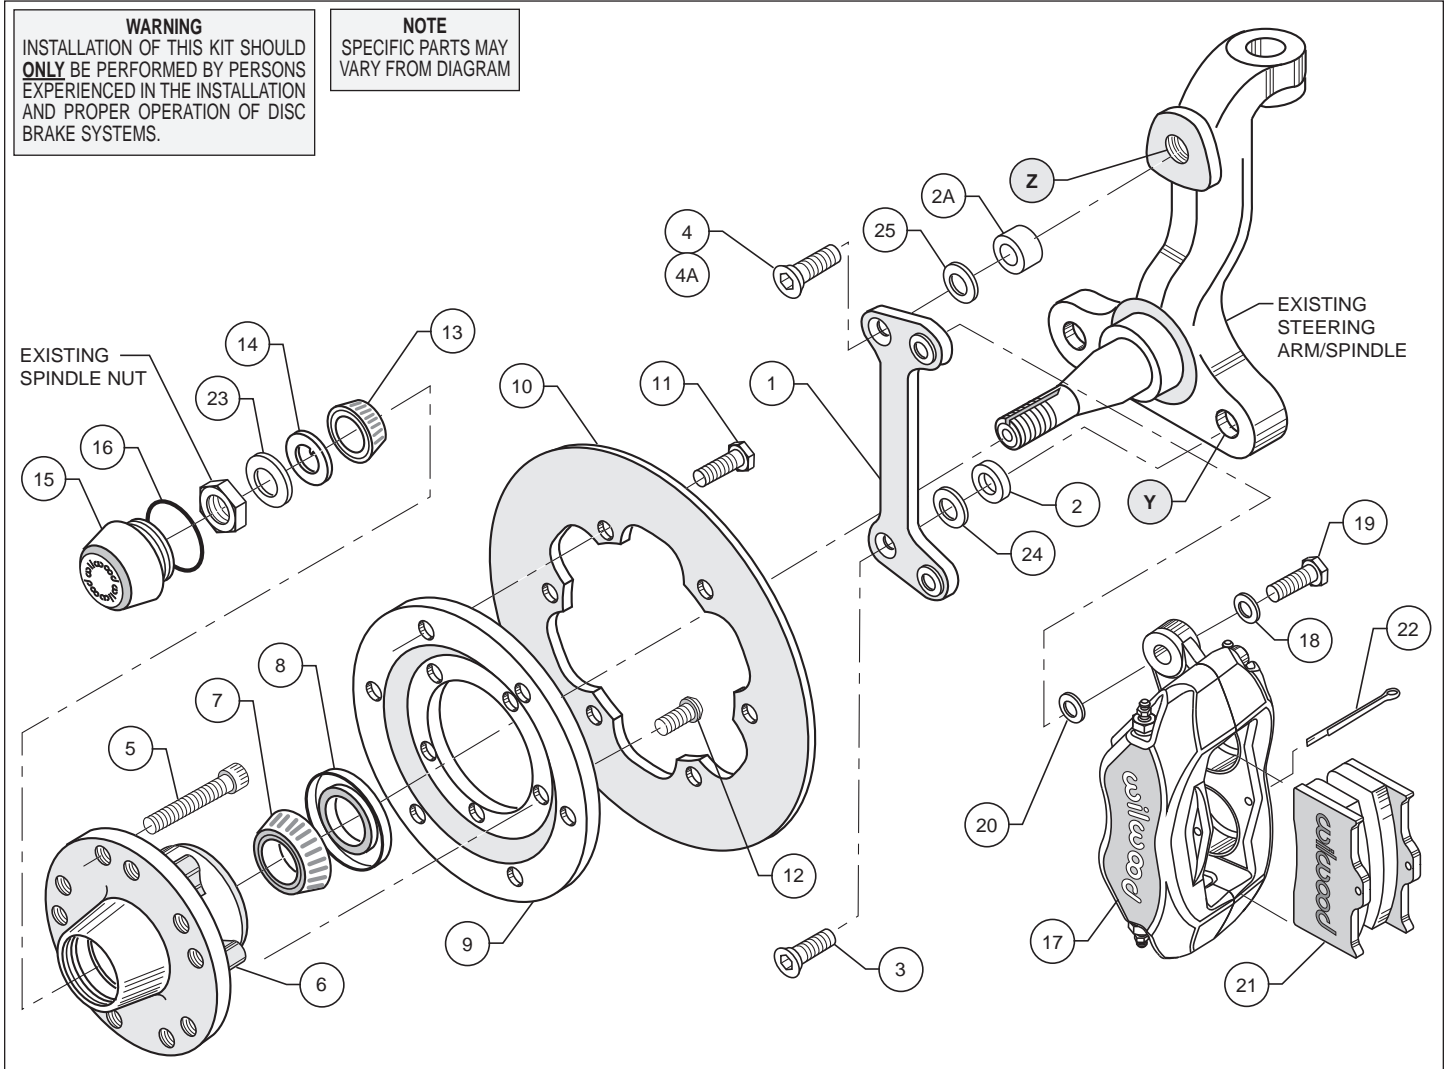
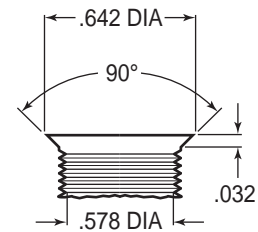
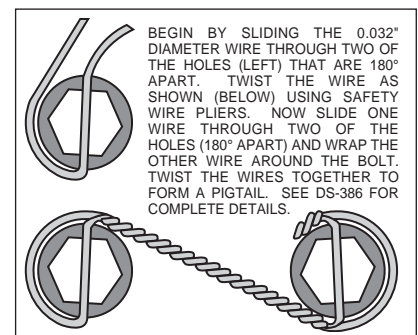

Figure 1. Typical Installation Configuration
Figure 3. Drill and Tap Detail
Figure 4. Safety Wire Diagram
- NOTE:** 1964-66 spindles may require the following modifications (reference Figure 1 and Figure 3): Top anchor pin hole (Z) must be drilled and tapped to the dimensions as outlined in Figure 3. Bottom rear steering arm bolt hole (Y) in the spindle and steering arm must be enlarged to .50" by drilling. A 1/2-20 backing nut (not supplied in kit) will need to be acquired to torque bracket / steering arm bolt (supplied in kit).
- Apply red *Loctite*® 271 to bolt threads (3 and 4, or 4A for disc spindle application) before assembly of the caliper mounting bracket (1). Mount bracket (1) to dust face plate of spindle using the bottom bolt (3) while positioning spacer (2) between bracket and spindle face, finger tighten only. Install the upper bolt (4, or 4A with spacer 2A positioned between bracket and top hole of spindle face), torque to 120 ft-lb. Torque bolts (3) to 77 ft-lb. **NOTE:** Be sure the heads of the bracket (1) insert nuts are facing outward toward the wheel. **NOTE:** Because of a tolerance variation among spindles, it may be necessary to install a shim washer (24 and/or 25) between the spacers (2 and/or 2A) and the bracket (1) in order to square the bracket to the rotor.
- Install wheel studs (5) into the hub (6). Torque to 77 ft-lb. **NOTE:** There are two five lug patterns in the hub (5 x 4.50 and 5 x 4.75). Make sure of the correct hole pattern for the correct wheel application before installing studs into hub.
- Pack the large inner bearing cone (7) with high temperature disc brake bearing grease (available from your local auto parts store) and install into the backside of the hub (6).
- Install the grease seal (8) by pressing into the backside of the hub (6).
- Attach rotor adapter plate (9) to rotor (10) using bolts (11). Apply red *Loctite*® 271 to threads and torque bolts (11) to 25 ft-lb. For an added measure of security, the bolts may be safety wired using standard 0.032 inch diameter stainless steel safety wire as shown in Figure 4. Refer to Wilwood's data sheet DS-386 for complete safety wire installation instructions. **NOTE:** Dished side of adapter plate (9) should face hub (6). The counterbored side of the steel rotors (10) should face away from the adapter plate (9).
- Mount the adapter/rotor assembly (9/10) to the hub (6) using bolts (12) (finger tight), as shown in Figure 1. Using an alternating sequence, remove bolts one at a time, apply red *Loctite*® 271 to the threads, and torque to 55 ft-lb.
- Pack the small outer bearing cone (13) with high temperature disc brake bearing grease and install into front of hub (6). Slide the hub/rotor assembly (6 and 10) with outer bearing cone (13) onto the spindle. Secure using spindle washer (14), stock adjusting nut and nut locking device. Adjust bearings per Original Equipment Manufacturer (OEM) specifications. **NOTE:** Because of a tolerance variation among spindles, it may be necessary to install a shim washer (23) between the spindle washer (14) and the spindle nut if the spindle nut will not tighten down all the way. There are four supplied in the kit for your convenience.
- Install the dust cap (15) onto the hub (6). Friction created by the o-ring (16) on the dust cap (15) keeps it from unscrewing. The O.D. of the existing spindle washer may be larger than the I.D. of the dust cap (15) not allowing it to seat against the hub face. Some grinding on the washer O.D. may be necessary to clear the I.D. of the dust cap (15).